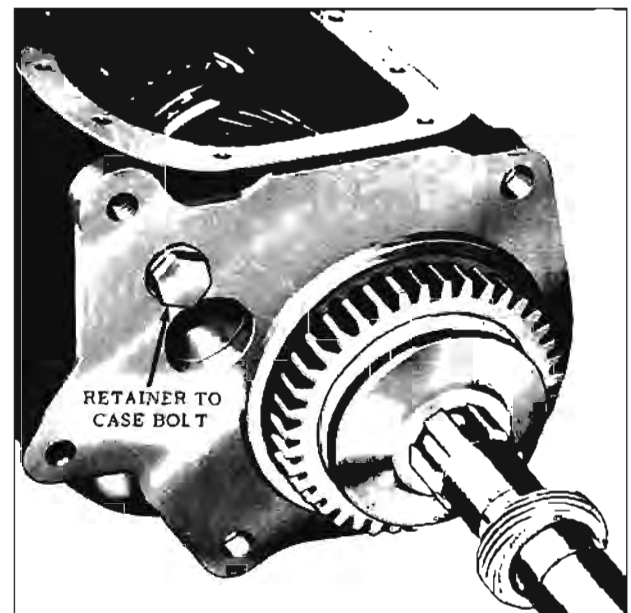

Fig. 11-249 Installing Rear Bearing Retainer
8. Be sure the dowel pin in the rear bearing retainer is aligned with the hole in the case, then install the self-locking bolt attaching rear bearing retainer to transmission case. Torque 20-30 ft. lbs. (Fig. 11-249)